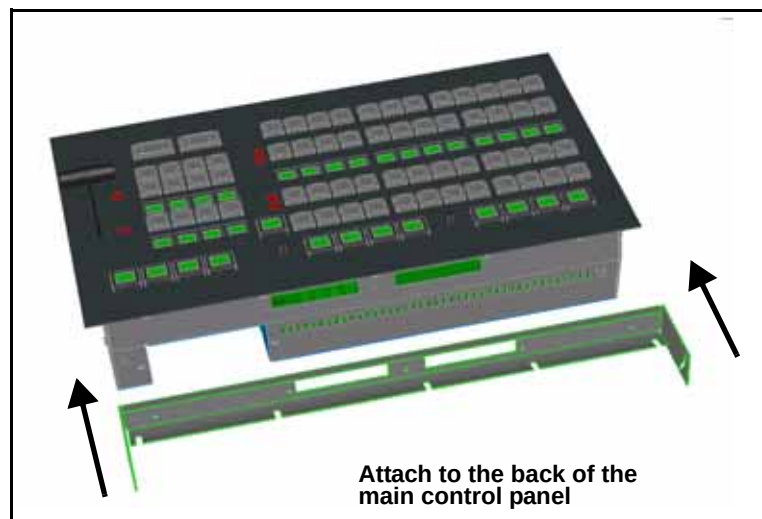

Figure 2-5. Audio Control Panel Mounting Bracket
4. Attach the audio control panel mounting bracket to the back of the main control panel, using the screws provided (see Figure 2-5).